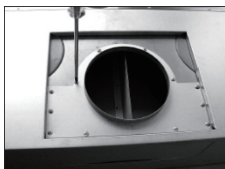

Fig. 3a
- Replace the 6" round duct with half round section duct. (**Fig. 3a – 3b**)